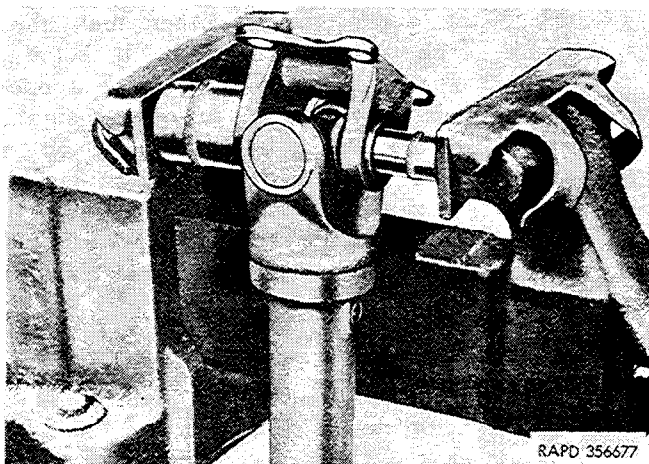

Figure 2-131. Removing bearings.
(2) Press the four bearings from the universal joint in an arbor press, or remove them in the manner shown in figure 2-131. For this method, place the universal joint in a vise with a 1¼-inch heavy-duty socket over one bearing and a ½-inch socket against the opposite bearing. Tighten the vise to force the bearing from the yoke, being careful not to damage either oil seal retainer as the bearing is removed. Remove the other three bearings in the same manner. Separate the two yokes and remove the journal.